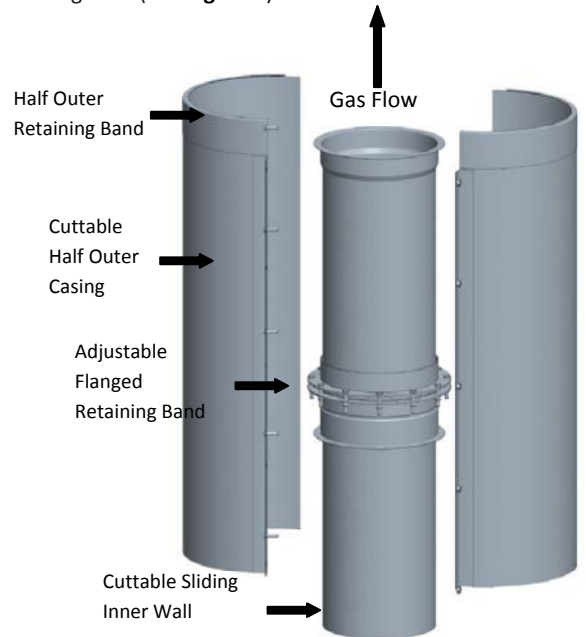

Figure 9 – Variable Length (LV)
The Variable Length (LV) has one major function. It makes up odd lengths of duct. It must not be used for expansion compensation. It is shipped with a flanged retaining band assembly on the inner sliding wall. (See **Figure 9**)